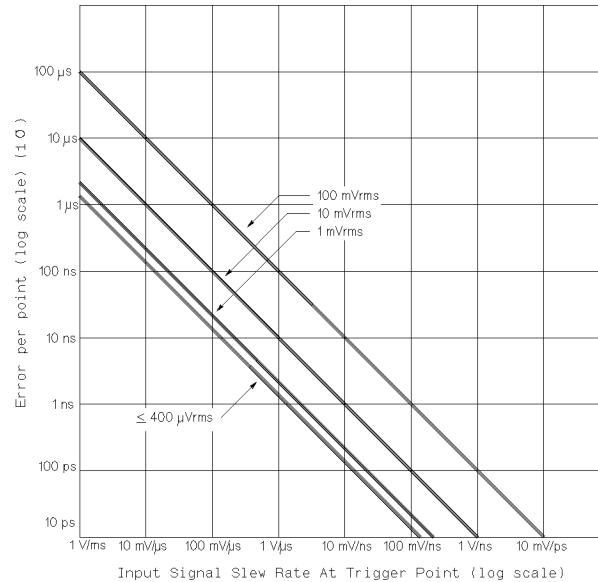

Figure 4-2. Input Noise Trigger Error
3. Trigger Error (See Figure 4-2.)